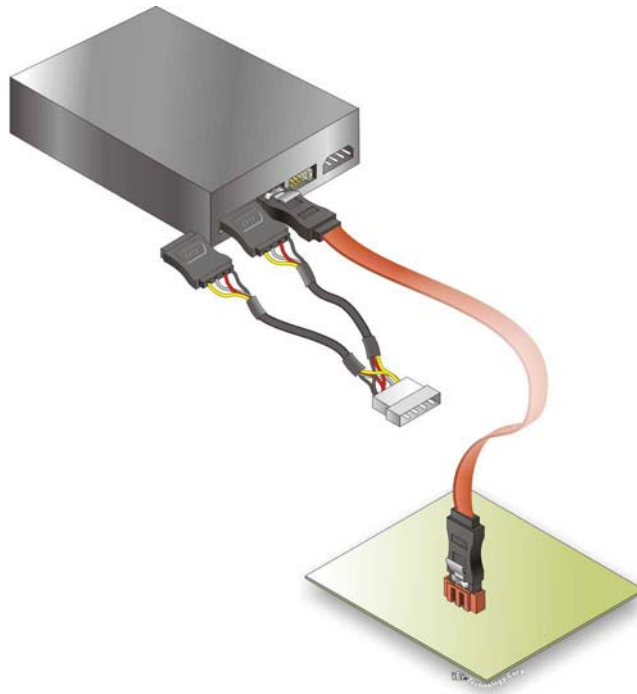

Figure 4-14: SATA Power Drive Connection
Step 3: Connect the cable to the SATA disk. Connect the connector on the other end of the cable to the connector at the back of the SATA drive. See Figure 4-14.
Step 4: Connect the SATA power cable. Connect the SATA power connector to the back of the SATA drive. See Figure 4-14.